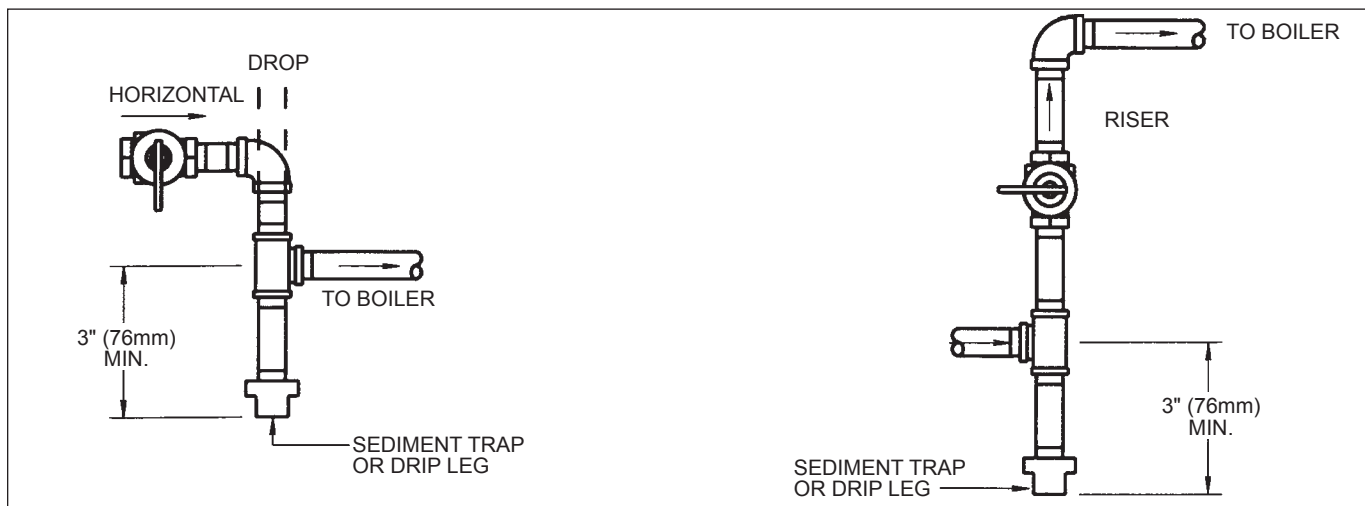

Figure 8. Gas Supply Piping.
4. A sediment trap (drip leg) must be installed ahead of the gas controls (see **Figure 8**). Fit the trap with a threaded cap which can be removed for cleaning.